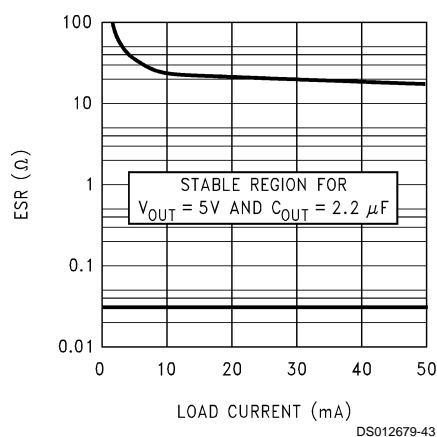
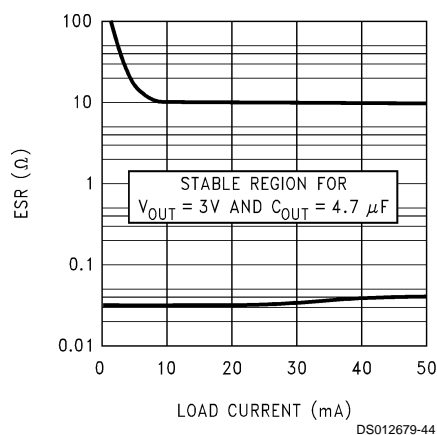

FIGURE 1. 5V/2.2  $\mu\text{F}$  ESR Curves
FIGURE 2. 3V/4.7  $\mu\text{F}$  ESR Curves
**OUTPUT CAPACITOR:** The output capacitor must meet both the requirement for minimum amount of capacitance and E.S.R. (equivalent series resistance) value. Curves are provided which show the allowable ESR range as a function of load current for various output voltages and capacitor values (refer to Figure 1, Figure 2).